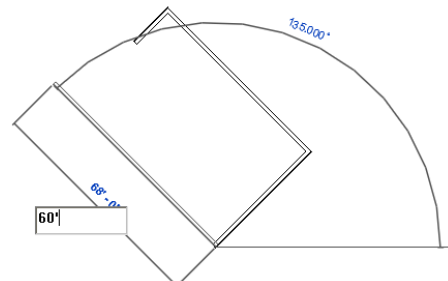

Figure 3-46 Sketching the fourth inclined wall segment
- g. Use the **Center-ends Arc** sketching option to create the curved wall, refer to Figures 3-46 and 3-47.
7. To create the next wall, move the cursor upward toward the left and invoke the perpendicular snap override as in step 5. Enter **60'(18288 mm)** as the length of the wall segment and press ENTER to create the fourth inclined wall segment, as shown in Figure 3-46.